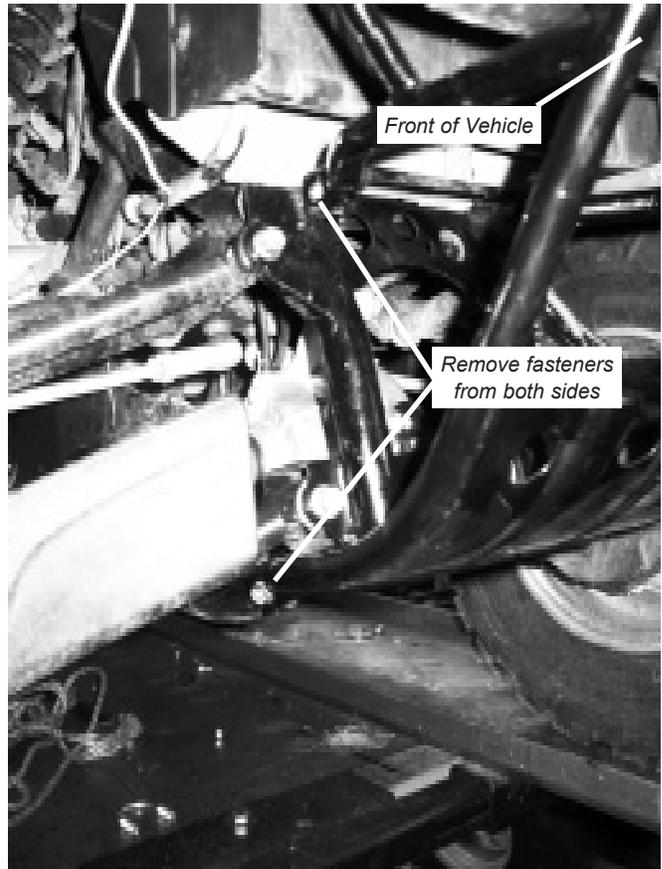

Figure 11 Remove Bottom Fasteners
3. Remove the bottom four bolts (two on each side) fastening the front bumper to the ATV as shown in figure 11. Remove the front bumper from the ATV. Keep the fasteners for future use in this installation.